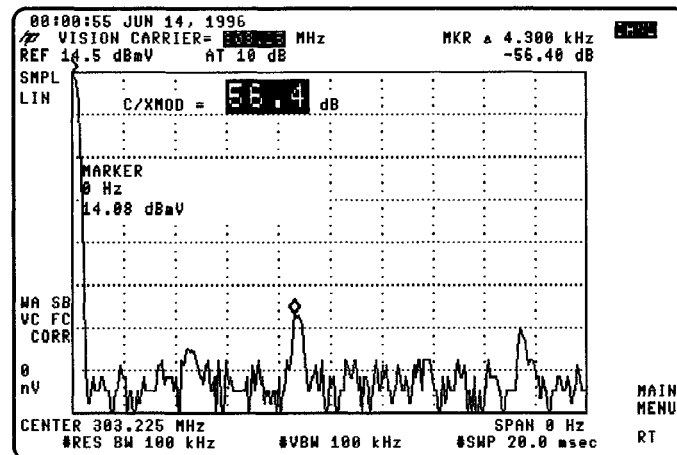

Figure 2-22. Cross Modulation
1. Select a channel, turn off modulation, then press **Main 1 of 4**, **CROSSMOD**. The results appear as shown in Figure 2-22.